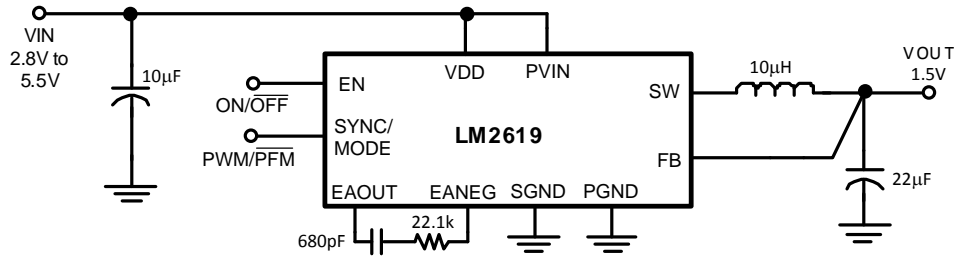

Figure 3. Typical Circuit for 1.5-V Output Voltage
LM2619ATL, Circuit of Figure 3,  $V_{IN} = 3.6V$ ,  $T_A = 25^\circ C$ , unless otherwise noted.
**Shutdown Quiescent Current vs Temperature (Circuit in Figure 3)**